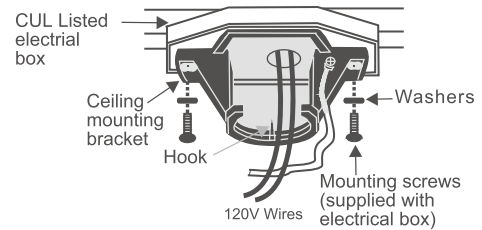

Fig 5
Step 1. Pass the 120-volt supply wires through the center hole in the ceiling hanger bracket as shown in Fig. 5.